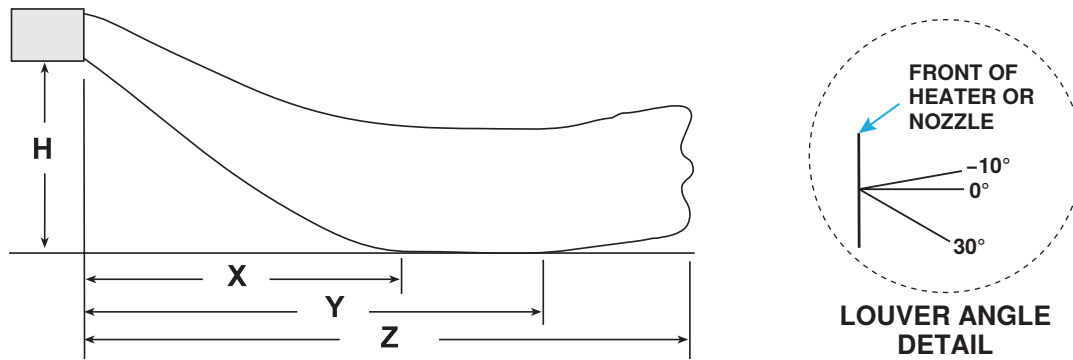

Figure 1. Heater Throw Patterns (Refer to Table 2 and Table 3)
Figure 1 shows throw patterns and Table 2 and Table 3 list throw distances for heaters suspended at varying mounting heights. The throw pattern changes with the addition of optional vertical louvers and/or downturn nozzles. Throw distances for units with downturn nozzles are listed in the downturn nozzle kit installation manual provided with the kit.
*See Figure 1.